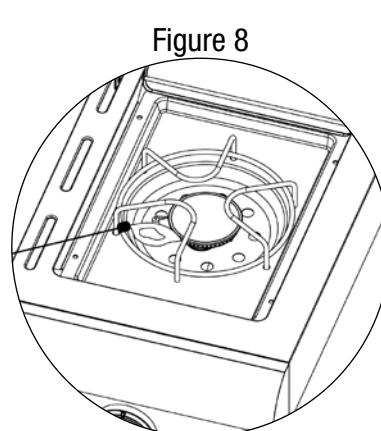

Figure 8
8. If igniter does not light burner, use a lit match secured with the lighting rod provided to light burner manually. Position the lit match near side of the burner (Figure 8).